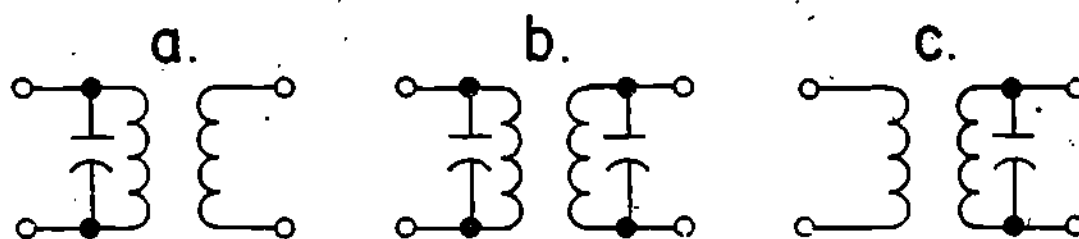

Figure 2
4. When we amplify RF signals, as in a radio receiver, we also are concerned with selectivity. In other words, we want to amplify only the frequency of the radio station that we select. Since a transformer is actually two coupled inductors, we can put a capacitor across either or both windings, as shown in Figure 2, to make the coupling circuit selective.
The capacitors parallel to the windings in Figure 2 make the transformer a parallel resonant circuit.
The capacitors in transformers a, b, and c, of Figure 2 make these circuits _____.